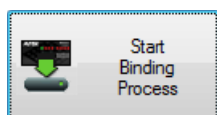

FIG. 42 AMX Device Binding Wizard dialog - Start Binding Process
6. When all devices have been paired for binding, click the **Start Binding Process** button to begin binding the devices according to the Binding Device selections (FIG. 42):